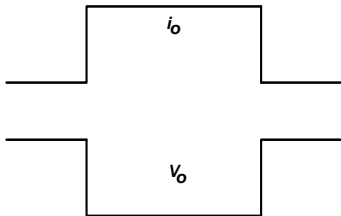
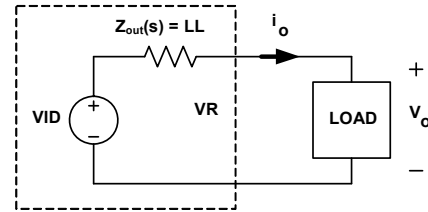

FIGURE 23. DESIRED LOAD TRANSIENT RESPONSE WAVEFORMS
FIGURE 29. VOLTAGE REGULATOR EQUIVALENT CIRCUIT
Assuming the compensator design is correct, Figure 23 shows the expected load transient response waveforms if C_n is correctly selected. When the load current I_{core} has a square change, the output voltage V_{core} also has a square response.
Figure 23 shows the desired load transient response waveforms. Figure 29 shows the equivalent circuit of a Voltage Regulator (VR) with the droop function. A VR is equivalent to a voltage source (= VID) and output impedance $Z_{\text{out}}(s)$. If $Z_{\text{out}}(s)$ is equal to the load line slope LL, i.e., a constant output impedance, then in the entire frequency range, V_o will have a square response when I_o has a square change.